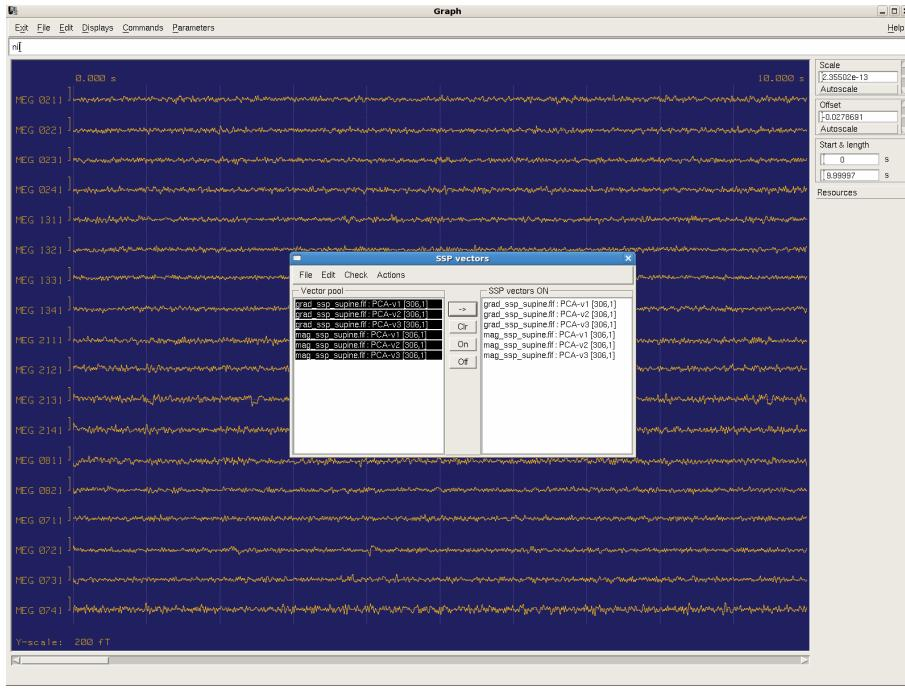

Figure 54: Select Commands ->SSP dialog to load and activate the SSP vectors.
- Select vectors on the left panel of the **SSP vectors** dialog and click the arrow (→) button to make them active (Figure 54). The vectors can be turned on and off using the buttons **On** and **Off**. The label on the right column then indicates SSP vectors **ON** or SSP vectors **OFF**.